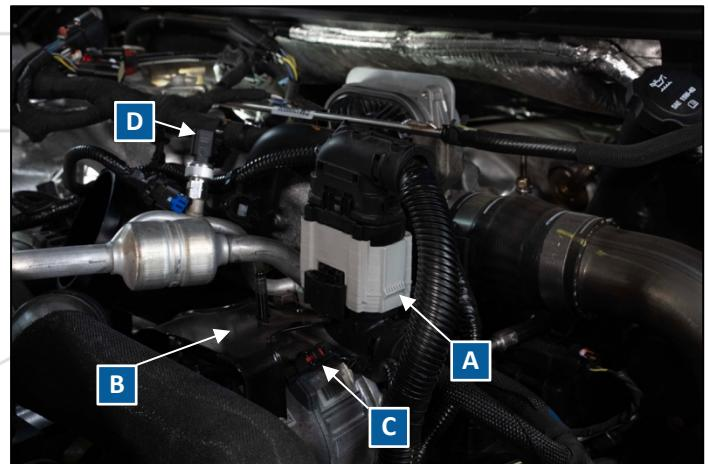

Figure 13: Top of A/C Compressor
17. Remove large harness connector on bracket above A/C compressor (labeled as A in Figure 13).
18. Remove bracket from the top of A/C compressor, 13mm hex head nut x2 (labeled as B in Figure 13).
19. Unplug A/C clutch and A/C pressure connectors (labeled as C and D in Figure 13).